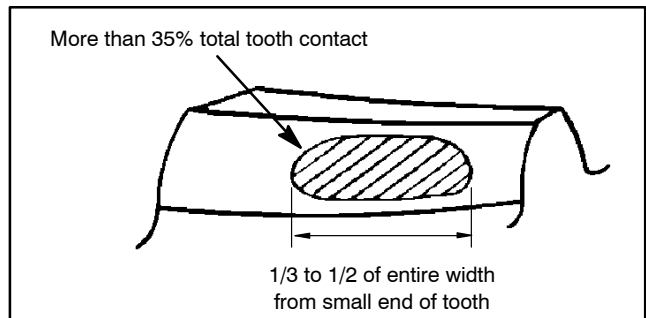

Figure 28
9. Ideal tooth contact should cover more than 35% of each tooth surface. The contact area should be in the center of each tooth and extend 1/3 to 1/2 way across each tooth from the toe (small) end (Fig. 28).